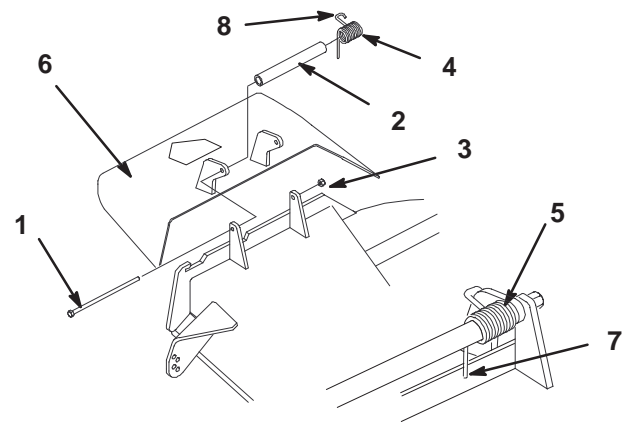

Figure 63
1. Remove the locknut, bolt, spring and spacer holding the deflector to the pivot brackets (Fig. 63). Remove damaged or worn grass deflector.
Note: Make sure the straight end of spring is installed behind deck edge before installing the bolt as shown in figure 63.
3. Install bolt and nut. Place hook end of spring around grass deflector (Fig. 63).